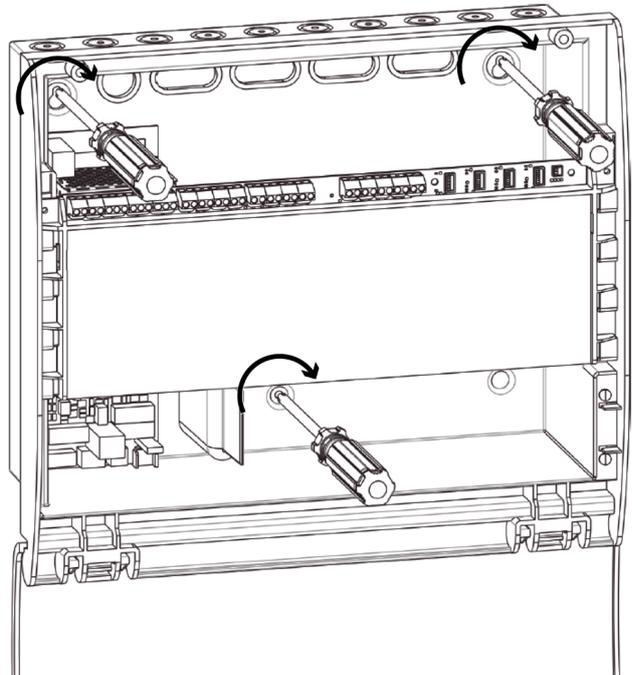

Figure 18. Secure the panel to the wall
- Using the mounting holes in the back box, drill holes into the wall and insert wall plugs and secure the panel to the wall as shown in Figure 18. Ensure any dust is cleaned from the back box.